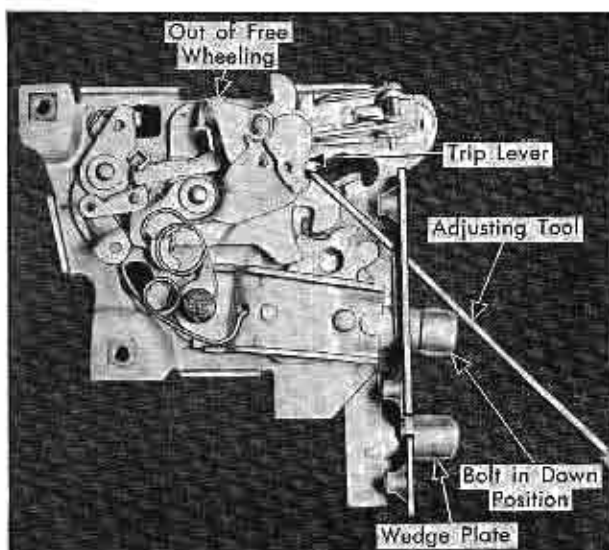

Fig. 3-28 Adjusting Rear Door Lock to Free Wheeling
3. To adjust lock "in" free-wheeling, engage trip lever and push lever forward, Fig. 3-28.